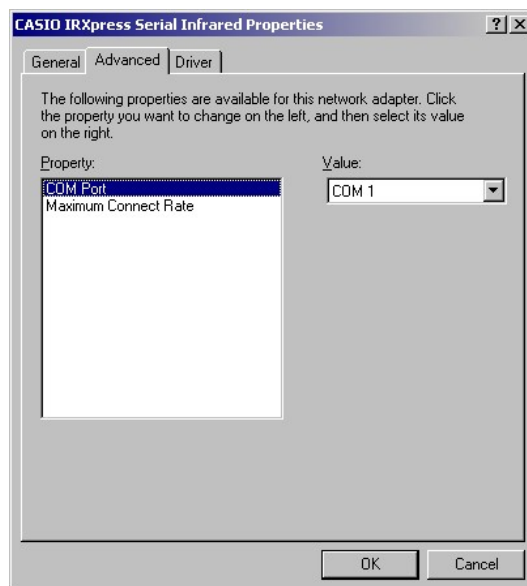

Figure 5.32
7. Click **OK** button in Figure 5.32.